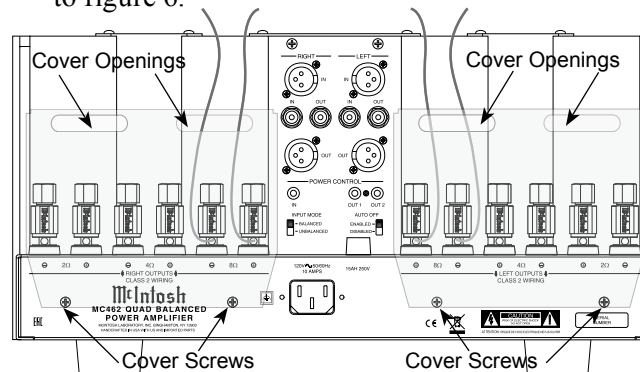

Figure 6 (Outside USA and Canada)
11. Locate the Terminal Connections Covers from the inside of the MC462 shipping carton. Insert the just prepared Loudspeaker hookup cables thru the cover openings, one cover for each channel. Refer to figure 6.
*Note: The illustration in figure 6 is connections for 8Ω (ohms) Loudspeakers.*
13. Attach the Terminal Connections Covers to the MC462 Rear Panel with the previously removed Screws. Refer to figure 6.